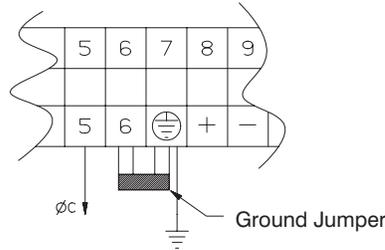

Figure 37. Grounding Jumper
- Remove the grounding jumper from the UPS terminal board on the back of the UPS cabinet (see Figure 37).